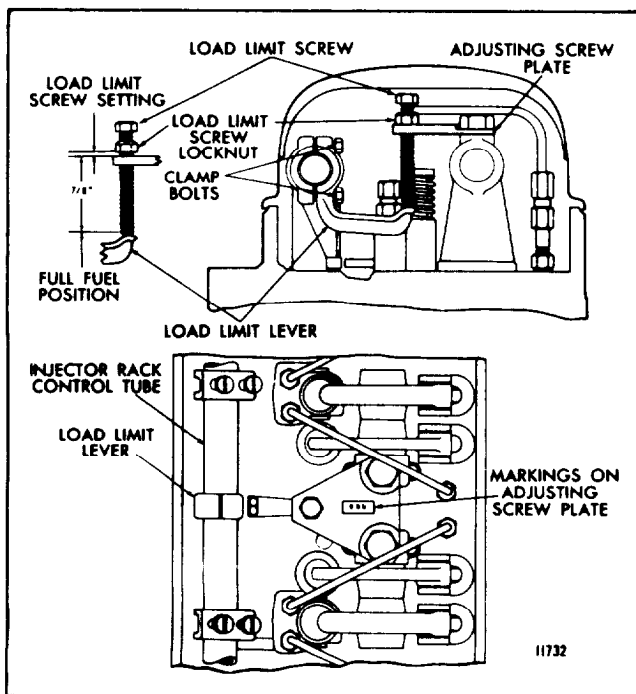

Fig. 1 - Engine Load Limit Device
Engines with mechanical governors may be equipped with a load limit device (Fig. 1) to reduce the maximum horsepower.
After the engine tune-up is completed, make sure the load limit device is properly installed as shown in Fig. 1. Make sure the counterbores in the adjusting screw plate are up. The rocker arm shaft bracket bolts which fasten the adjusting screw plate to the brackets are tightened to 50-55 lb-ft (68-75 Nm) torque. Then adjust the load limit device, on each cylinder head, as follows:
3. With the screw out of the plate, adjust the load limit screw lock nut so the bottom of the lock nut is 7/8" from the bottom of the load limit screw (Fig. 1) for the initial setting.